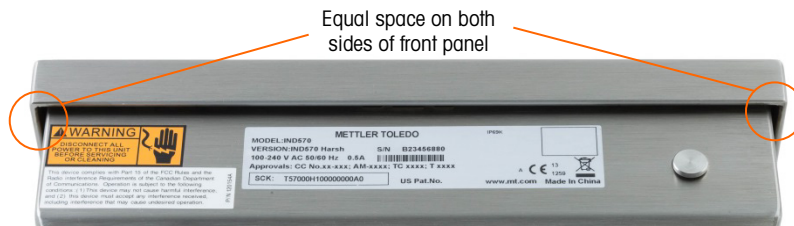

Figure 2-6: Harsh Enclosure Front Panel Correctly Aligned
1. It is very important to replace the front panel of the harsh enclosure correctly and securely, especially for terminals installed in Division 2 areas classified as hazardous. The two clips positioned on the sides of the enclosure help to facilitate the appropriate spacing. Before it is pressed into place, the front panel must be centered on the enclosure, as shown in Figure 2-6.